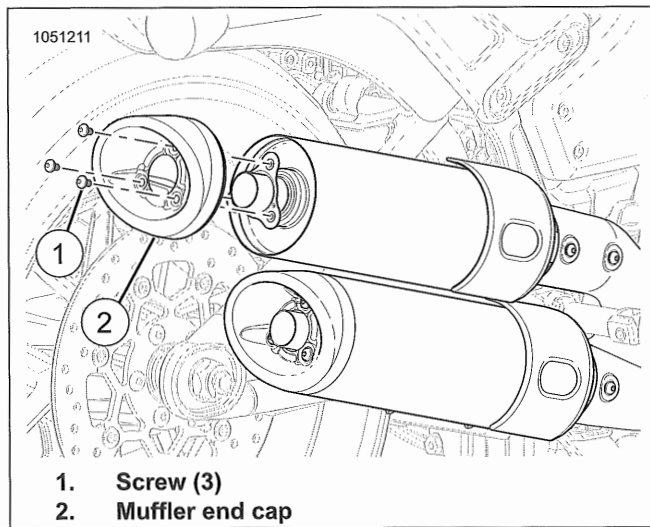

Figure 6-41. Muffler End Cap
1. See Figure 6-41. Remove end cap.
- a. Remove screws (1).
- b. Remove end cap (2).
1. See Figure 6-41. Install end cap.
- a. Apply anti-seize lubricant to screws (1).